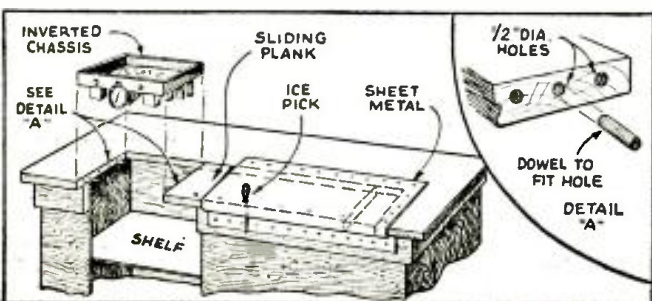

Fig. 5. How to build your work bench so that a chassis may be safely inverted.
**INVERTED-CHASSIS HOLDER.** This chassis holding scheme is very handy and it may be converted into a substantial part of the bench when not in use. The essentials are shown in Fig. 5, the shelf under the bench being used for support of speaker or midget cabinet, leaving the top of the table entirely clear for the test equipment. A series of holes is drilled along the edge of the sliding member to coincide with holes in the sheet metal section, so that the ice pick, when placed through the two, will prevent the sliding piece from moving out of place. The dowel pins are moved into such holes as are most convenient for the particular chassis under repair. It is preferable to cover the metal portion of the bench with insulating material, such as linoleum.